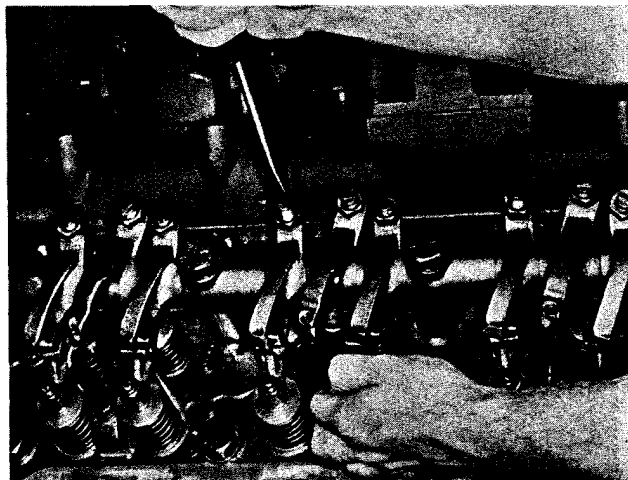

Fig. 2-41, (V51492). Adjusting valves
1. Loosen locknut and back off adjusting screw. Insert feeler gauge between rocker lever and top of crosshead. Valve clearances are shown in Table 2-8. Turn screw down until lever just touches gauge and lock adjusting screw in this position with locknut. Fig. 2-41. Torque locknut to values indicated in Table 2-7, note Step 3 under "Injector Plunger Adjustment."